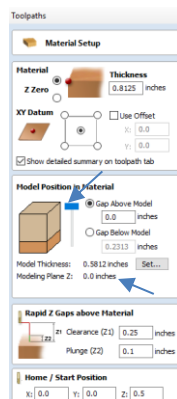

Fig. 6
5. Check your Material Setup, make sure that the Model Position in Material is at the top and that the Modeling Plane "Z" is 0.00 (Fig. 6). By adjusting the value in "Set" option in Model Position section.